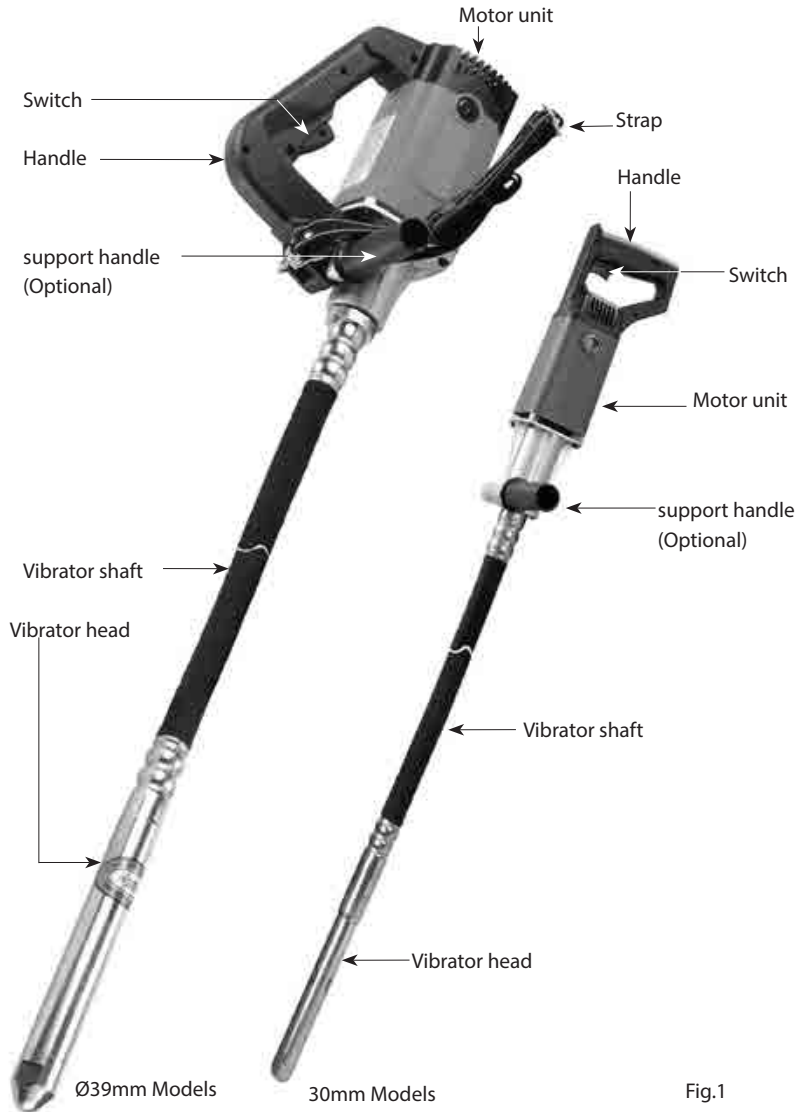

Fig.1
VRN1400 models: push the mounting bolt through from one side of the front of the gearcase and then on the other side, thread on the tension collar and the handle. See Fig.1.
3. Lock the support handle into place. See Fig.1.